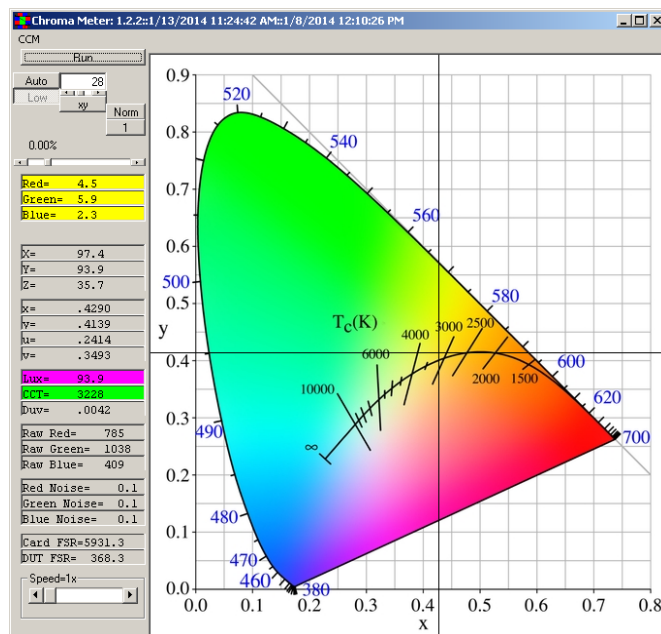

FIGURE 9. CHROMA TEST GUI
- C)** Once "ChromaMeter" is clicked, the window displayed in Figure 9 should open; if it does not display cross-points in the Chromaticity diagram on the right and numbers on the left panel of GUI, then check your connections. If the problem still persists, then you may want to restart the software. Figure 12 shows the error message that displays if the evaluation board is improperly attached.
- D)** Figure 9 shows an example using the ISL29125. Please note that all demonstrations within this document use the ISL29125.
16. Speed: Allows the user to select the number of ADC bits and the speed of the conversion. Details shown in Figure 9.